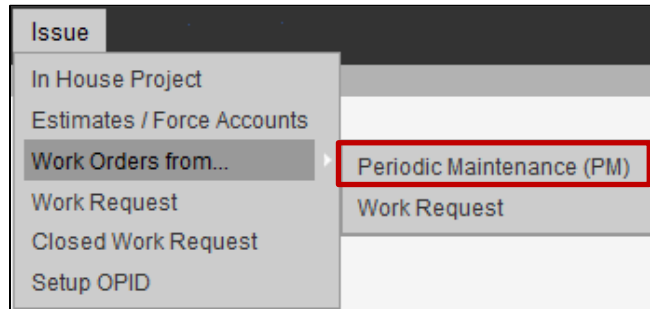

Figure 5-11. Issue ~ Work Orders from... Menu Options – PM
1. Navigate to Road Maintenance > Issue > Work Orders from ...> Periodic Maintenance (PM) (Figure 5-11).